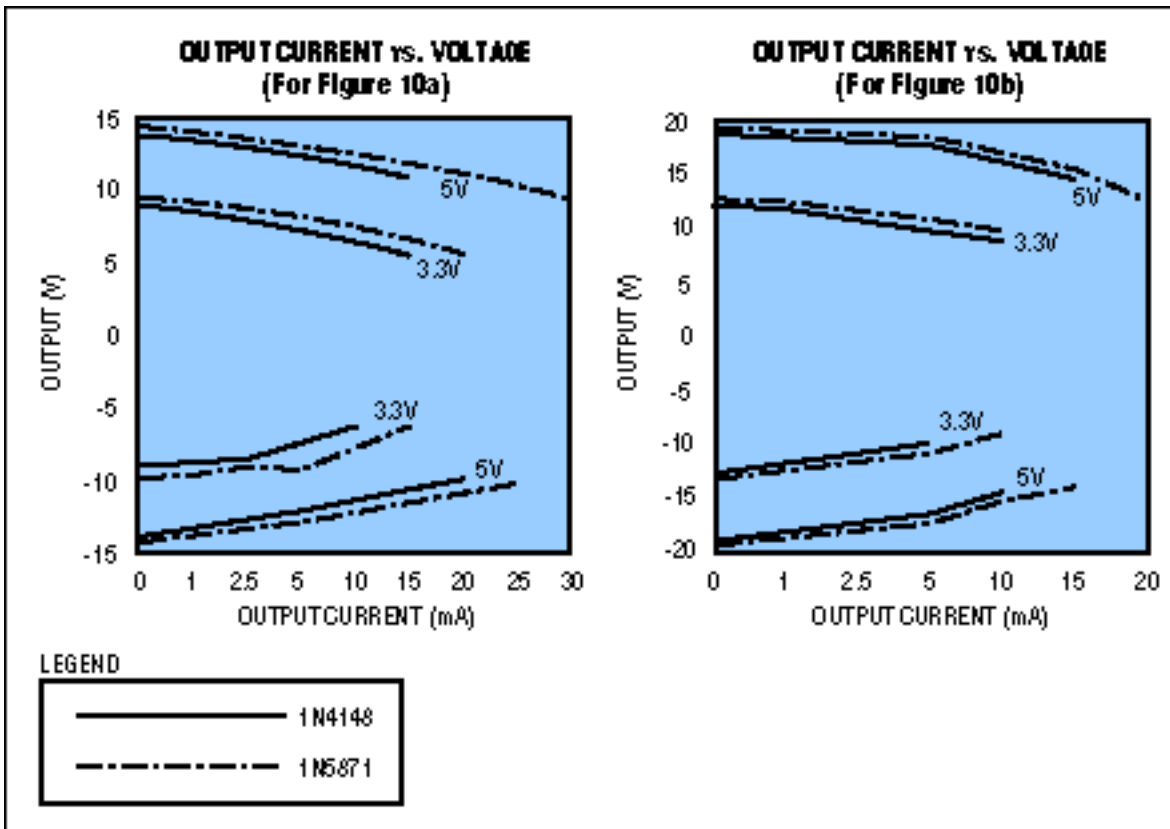

Figure 11. These graphs show  $V_{OUT}$  vs.  $I_{OUT}$  for the two circuits of Figure 10.
**Figure 11** illustrates the output voltage versus load current for each circuit in Figure 10, using both silicon diodes (for lowest cost) and Schottky diodes (for highest output). These circuits can supply as much as 20mA, and the 1 $\mu$ F filter capacitors yield less than 100mV of output ripple. If desired, you can lower that level considerably with slightly larger capacitors. The ICs in Figure 10 are set for 100kHz operation to allow use of 1 $\mu$ F capacitors, which results in a no-load supply current of 7mA. You can pin-program a lower frequency that lowers the supply current to 600 $\mu$ A, but to achieve the output currents shown in Figure 11 you'll need larger capacitors of 10 $\mu$ F.